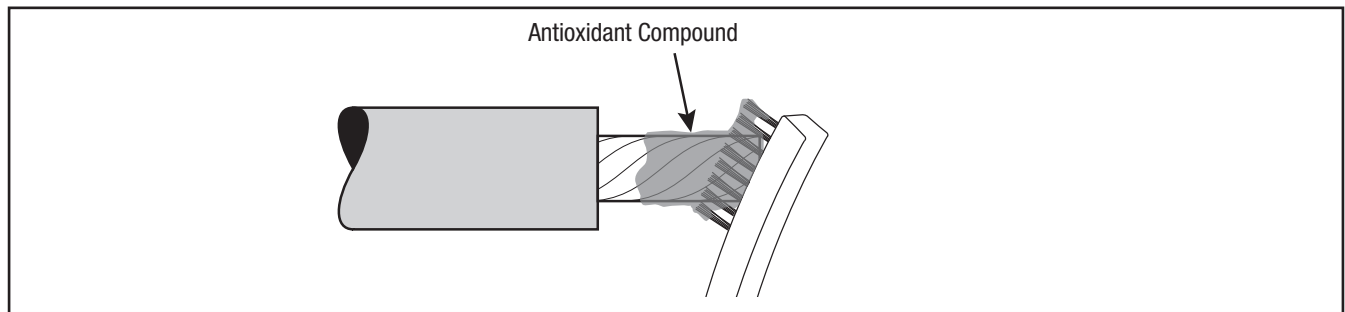

Figure 10
- 3.5 Install connector. See table (on cover) for proper connector dimensions. (For standard 3M Connectors, refer to table at the end of this instruction for crimping information). If using an aluminum conductor, wire brush aluminum strands and then insert into connector. Remove excess inhibitor compound and remove conductor from connector. Wire brush aluminum strands again. Insert into connector and crimp. Remove any excess oxidation inhibitor from connector ends (*Figures 10 and 11*). File sharp connector flashing, if necessary, taking care to remove all metal filings from splice area.